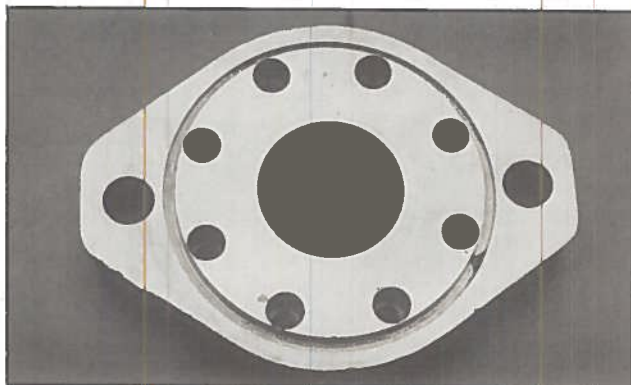

Figure 6. Pilot Flange for the High Torque Low Speed Motors.
1. Direct Mounting - A pilot on the orbital motor mounting flange (Figure 6) assures correct mounting and shaft alignment. Make sure the pilot is firmly seated in the accessory pad. Care should be exercised in tightening the mounting screws to prevent misalignment.